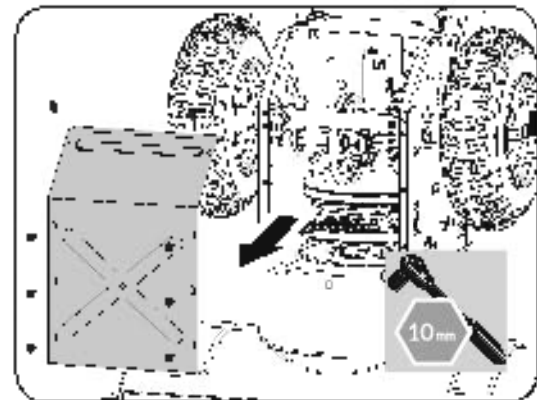

Figure 16c
5. Remove the frame cover from the underside of the snow blower by removing the screws which secure the cover. (See **Figure 16c**)
4. Remove bottom cover to avoid bending it when tipping unit apart. (See **Figure 16c**)
3. Remove the frame cover(s) from the underside of the snow blower by removing the screws which secure the cover(s). (See Figure 16c)